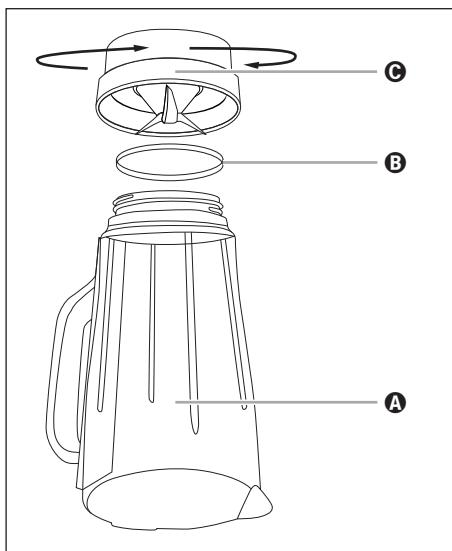

Fig. 4
- 2) Turn the appliance upside down and turn the plastic part ⑤ of the blender ③ anticlockwise so that it can be detached from the glass part ④ of the blender attachment ③ (see fig. 4).
- 4) You can carefully remove the sealing ring ⑥ from the plastic part ⑤ if necessary. Clean in mild soapy water and rinse with clear water.
- 6) If necessary, reinsert the sealing ring ⑥ into the plastic part ⑤ correctly. Then place the plastic part ⑤ of the blender ③ back on the glass part ④ of the blender ③ and turn the plastic part ⑤ clockwise.